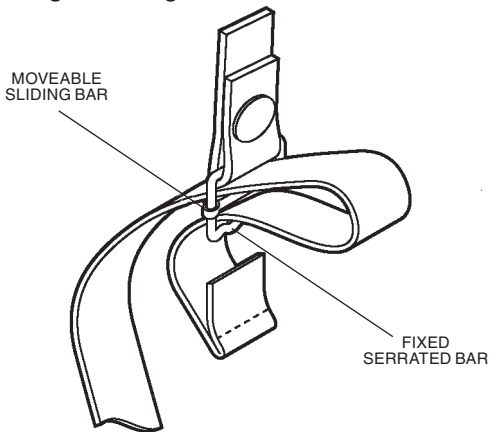

FIGURE 3.2. THREADING THE SLIDING BAR BUCKLES
(1) Thread the strap from the inside of the buckle over the moveable sliding bar (see Figure 3.2.). Thread the strap back through the buckle but this time under the moveable sliding bar and over the serrated part of the buckle.
(2) Pull the strap through the buckle and tighten as necessary.
(3) Repeat steps 1 and 2 for other straps and buckles that may have come undone.